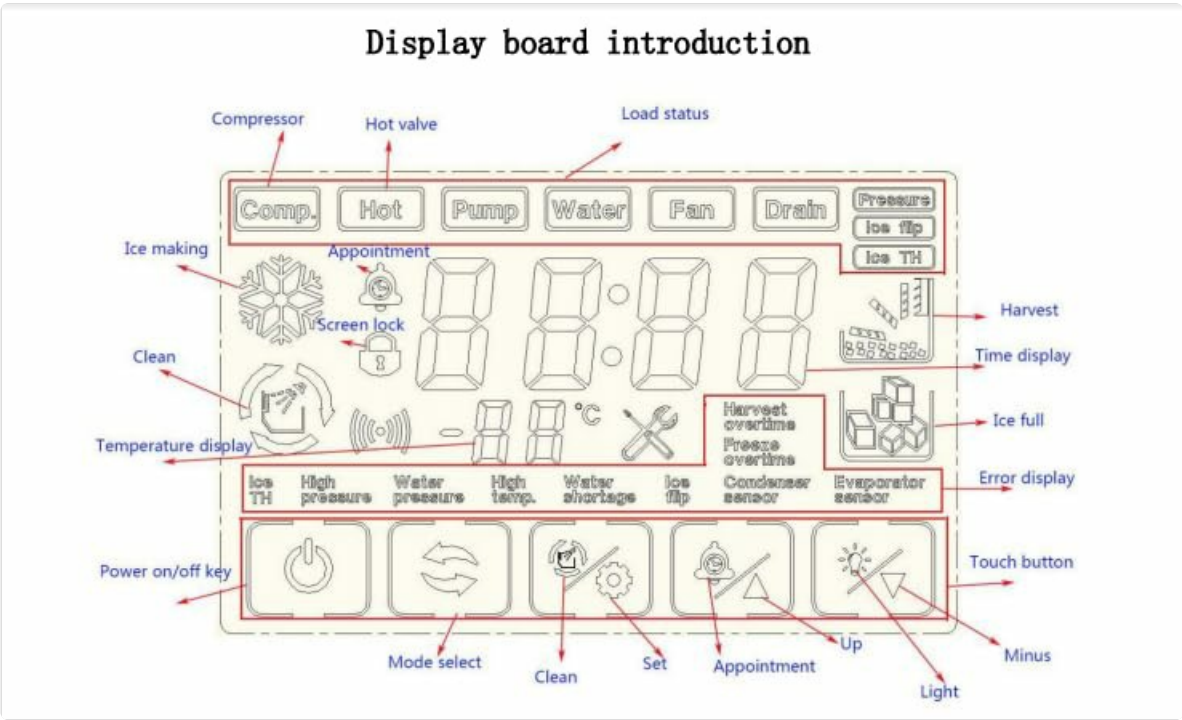

Figure 4.1: Detailed layout and function labels of the touch screen display board.
- **Error Codes:** Consult the display board introduction (Figure 4.1) to understand potential error indicators. Specific error codes may point to issues with sensors or other components.